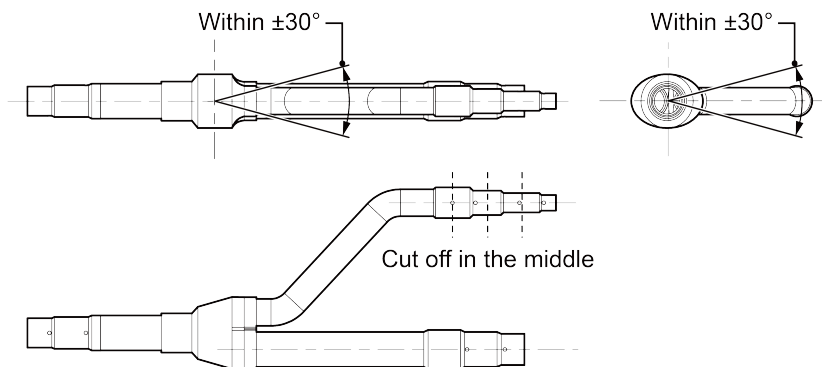

Fig.4.3.3
- (2) Y-type manifold has several pipe sections with different pipe size, which is convenient to match with various copper pipes. Use pipe cutter to cut in the middle of the pipe section with different pipe size and eliminate the burr as well. Show as Fig.4.3.3.
- (3) Y-type manifold should be installed vertically or horizontally.